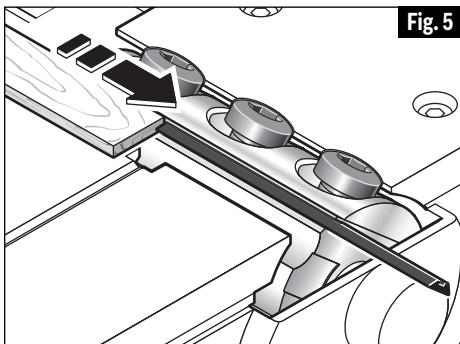

Fig. 5
3. Slightly rotate the blade drum and use a piece of wood to push the blade sideways and out from under the clamping jaw. Make sure to keep your fingers away from the sharp edges of the blade. If the blade is gummed and difficult to remove, you may clean the blade and clamp with mineral spirits, lacquer thinner or alcohol. (Fig. 5)